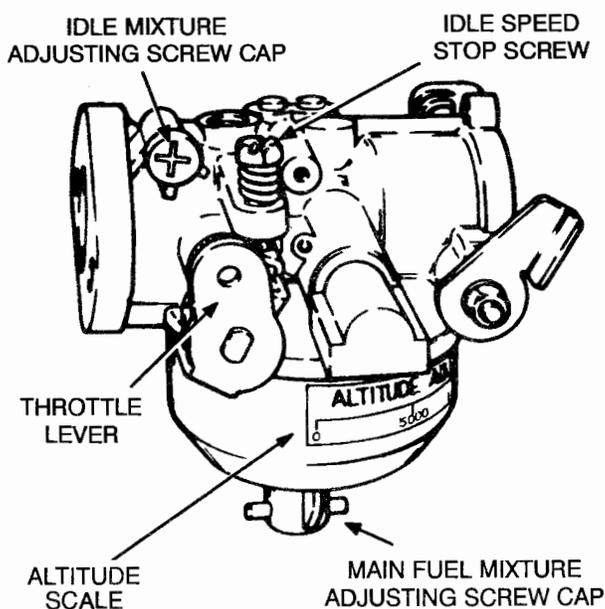

FIGURE 6-14. CARBURETOR
1. If the carburetor has been overhauled, gently turn the idle and main fuel mixture screws in by hand until they seat (Figure 6-14).